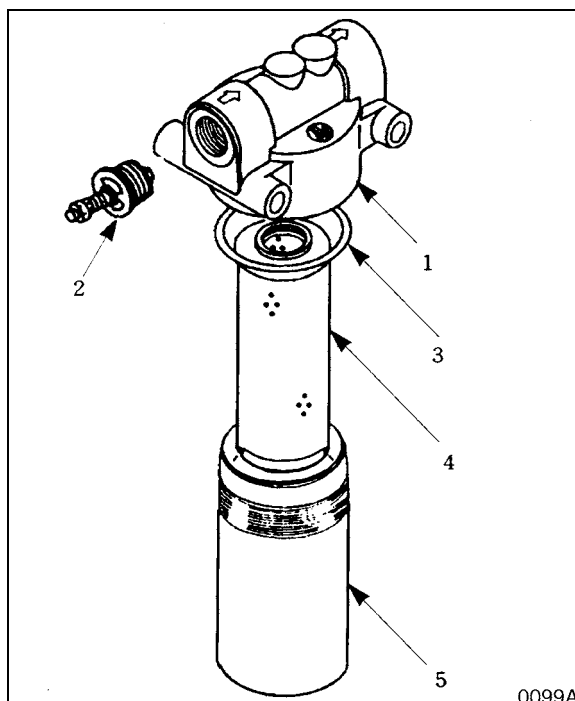

Figure 48
2. Unscrew element cover (5, Figure 48). Cover is filled with oil. Dispose of oil.
3. Remove O-ring (3, Figure 48) and filter (4).
4. Use a nonflammable, nontoxic solvent to clean out cover (5, Figure 48).
5. Insert a new filter (4, Figure 48) into cover (5). Install a new O-ring (3).
6. Screw cover (5, Figure 48) onto filter head (1).